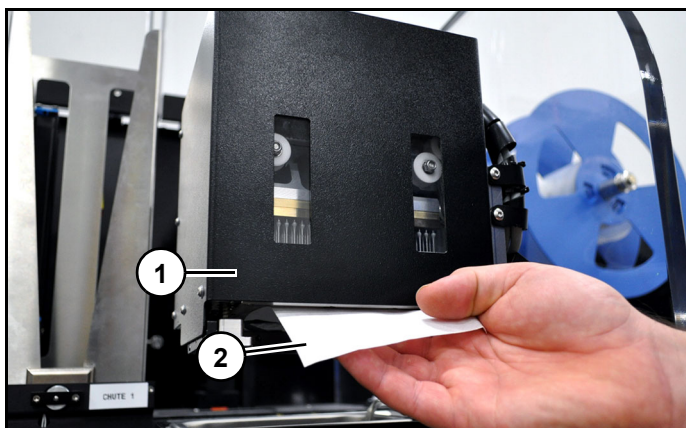

Figure 21
3. Dab seal, located on bottom of head (1), with a lint-free cloth moistened with alcohol (2). (Figure 21)